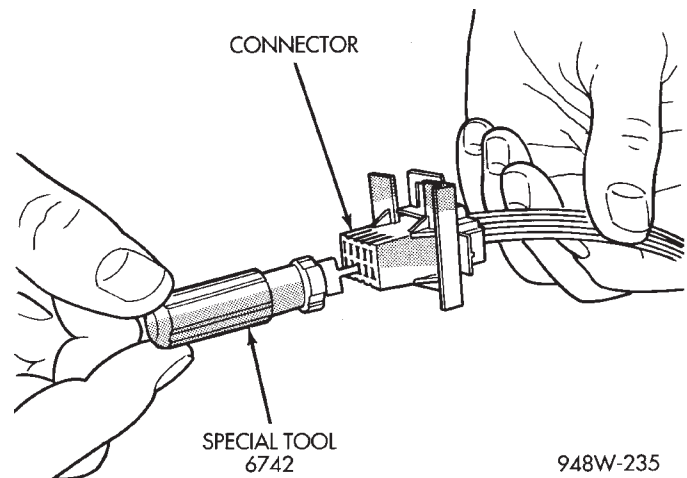

Fig. 12 Using Special Tool 6742
- (4) Using special tool 6742 release the locking fingers on the terminal (Fig. 12).
- (5) Pull on the wire to remove it from the connector.
- (6) Repair or replace the connector or terminal, as necessary.